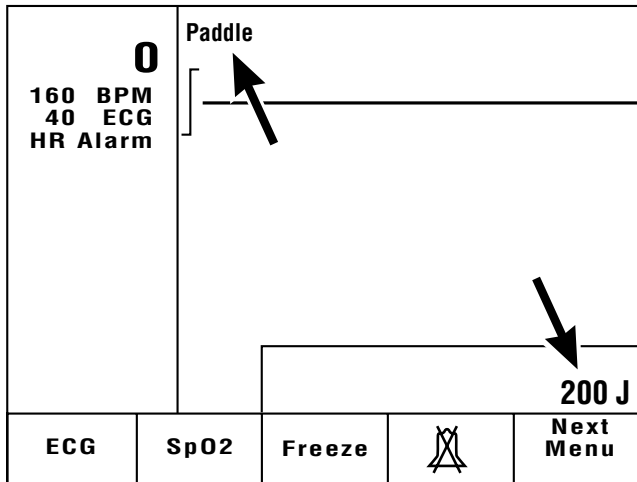

Figure 4-1. Main display, indication of ECG lead, manual operation and selected energy
The defibrillator beeps and displays a checkered pattern (LCD performance test). Next the main display appears (Figure 4-1). When a patient cable is connected the selected ECG lead is displayed (selectable).
- * Check that the energy selector locks in on the correct position and that the display shows the selected energy (Figure 4-1).